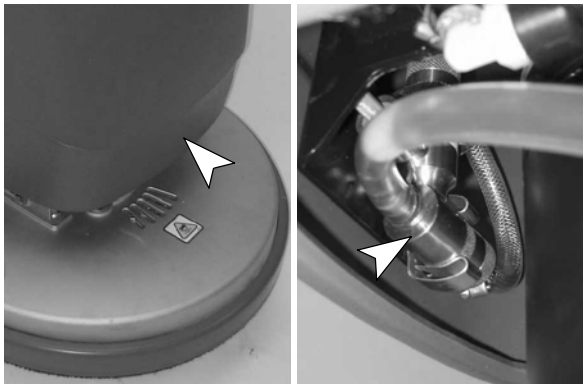

FIG. 54
- 1. Lower scrub head and remove the detergent injector from the two spring clamps (Figure 54).